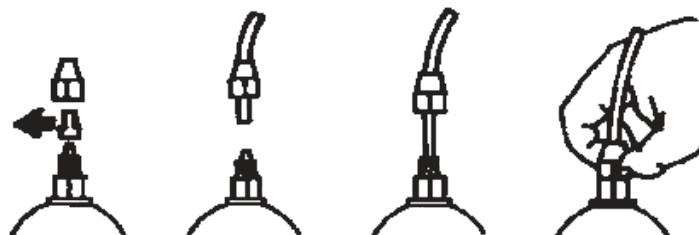

Fig. 7
e. - Remove the protection caps from the two nipples, slide the hoses over the connectors, pushing them right home, and then fix them with appropriate tube nuts. (Fig. 7).